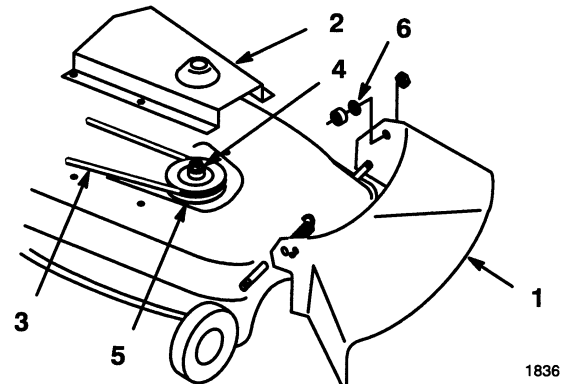

**Figure 38**
1. Remove the pivot support from the mower (Fig. 38).